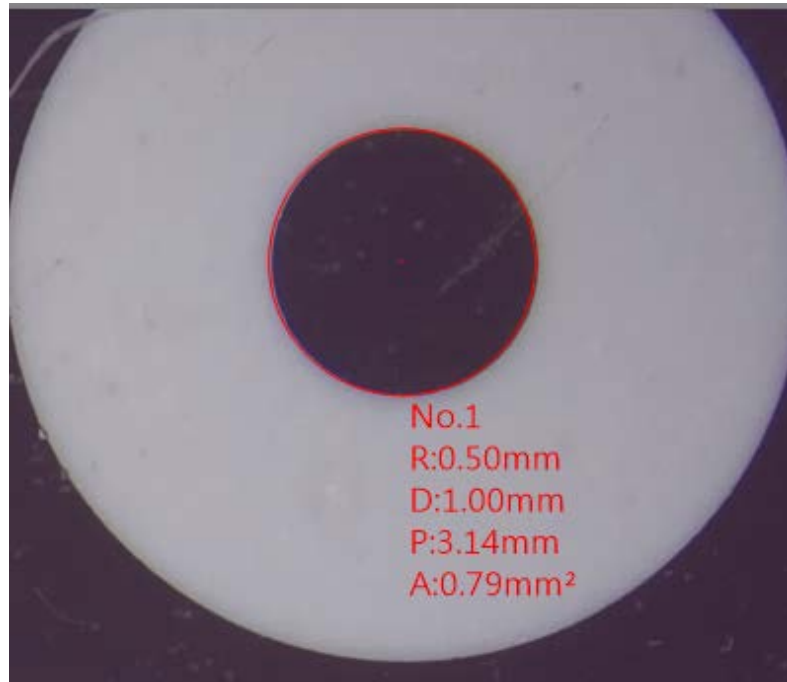

Fig. 5-11 3 Point Circle measurement
- (7) 3 Point Circle : When the object is Circle or just a Arc that can apply  tool. Point 1st point on the edge of object, then point 2nd point, again drag toward 3rd point, that automatically draw a circle. In the Fig. 5-11, Radius is  $R=0.50$  mm, Diameter is  $D=1.00$  mm, Perimeter is  $P=3.14$  mm and Area is  $A=0.79$  mm2.